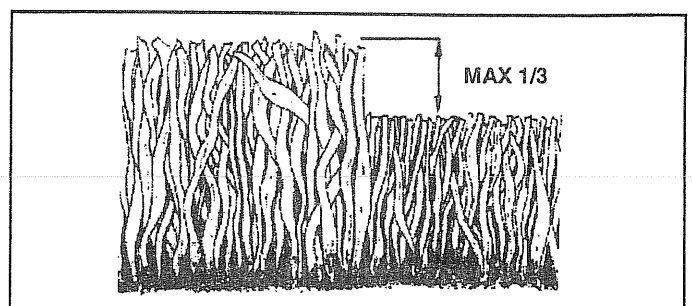

FIG. 14
- For best results, adjust the mower cutting height so that the mower cuts off only the top one-third of the grass blades (See Fig. 14). For extremely heavy mulching, reduce your width of cut on each pass and mow slowly.